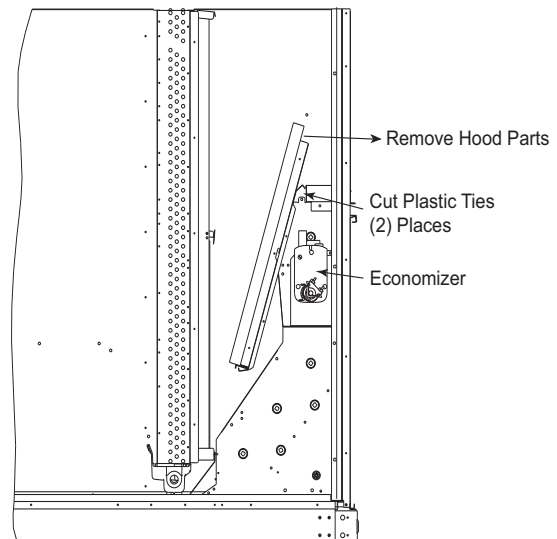

Fig. 16 — Economizer Hood Package Location (Size 16)
3. Locate and cut the (2) plastic tie-wraps being careful (see Fig. 16). Be careful to not damage any wiring or cut tie-wraps securing any wiring.
3. Locate the (2) screws holding the metal tray to the basepan and remove. In order to remove the screws, it may be necessary to remove the panel underneath the two-position damper. Remove the two screws. Locate and cut the (2) plastic tie-wraps securing the assembly to the damper. (See Fig. 16.) Be careful to not damage any wiring or cut tie-wraps securing any wiring.